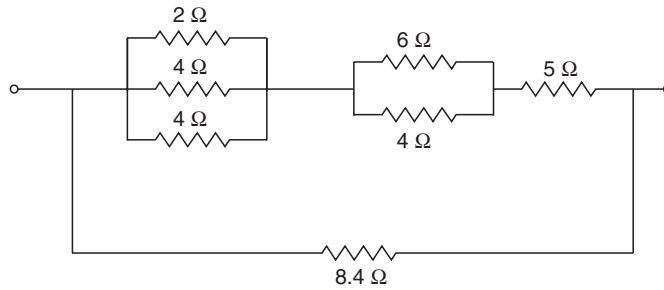

Fig. 58
14. Find the resistance of the circuit shown in Fig. 58.